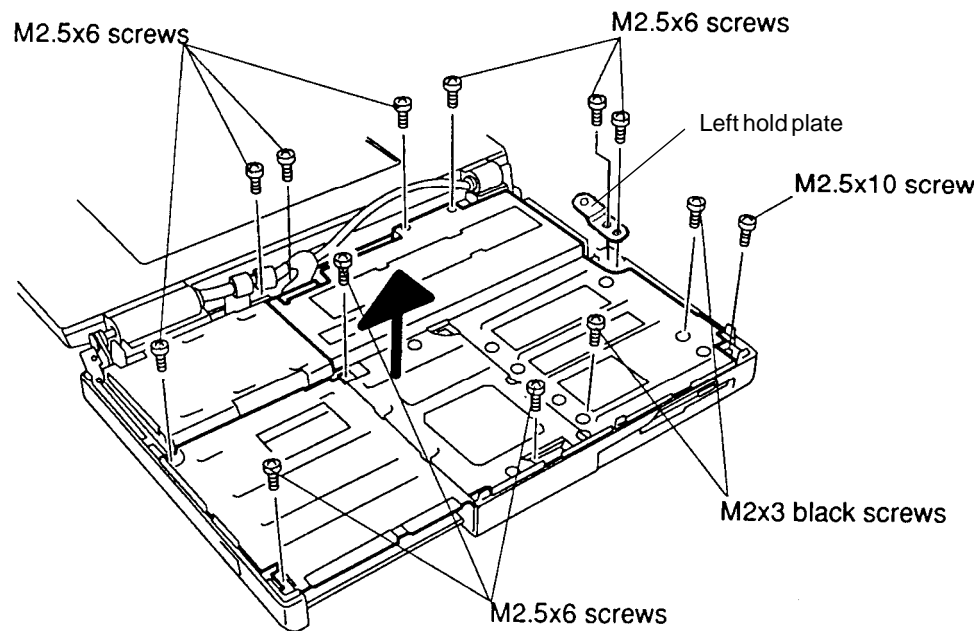

Figure 4-14 Removing the Protective Metal Plate
To remove the T4500/T4600 Family's hard disk drive and the flexible cable connecting the speaker/ball-point mouse connector, follow the steps below and refer to Figures 4-14 through 4-16.
3. Remove the **two M2x3 black screws** securing the protective metal plate to the FDD, **two M2.5x6 screws** securing the plate to the HDD, and the **eight M2.5x6 screws** and **one M2.5x10 screw** along the plate's rim securing the plate, **left hold plate**, and ground cables to the computer (Figure 4-14).
To install the computer's hard disk drive, follow the steps below and refer to Figures 4-14 through 4-17.
7. Reseat the **protective metal plate**, making sure the holes for screws match corresponding holes on the computer and the ground cables are routed above the plate (Figure 4-14).
8. Replace the **two M2x3 black screws** securing the protective metal plate to the FDD, **two M2.5x6 screws** securing the plate to the HDD, and the **eight M2.5x6 screws** and **one M2.5x10 screw** along the plate's rim securing the plate, **support bracket**, and ground cables to the computer (Figure 4-14).
2. Remove the battery pack, optional memory card, optional PCMCIA card, and top cover as described in Sections 4.2 through 4.5. Also, remove the protective metal plate to disconnect the FL inverter cable as described in Section 4.8 (shown in Figure 4-14).
4. Reseat the protective metal plate, making sure the holes for screws match corresponding holes on the computer and the ground cables are routed *above* the plate (Figure 4-14).
5. Replace the **two M2x3 black screws** securing the protective metal plate to the FDD, **two M2.5x6 screws** securing the plate to the HDD, and the **eight M2.5x6 screws** and **one M2.5x10 screw** along the plate's rim securing the plate, **support bracket**, and ground cables to the computer (Figure 4-14).